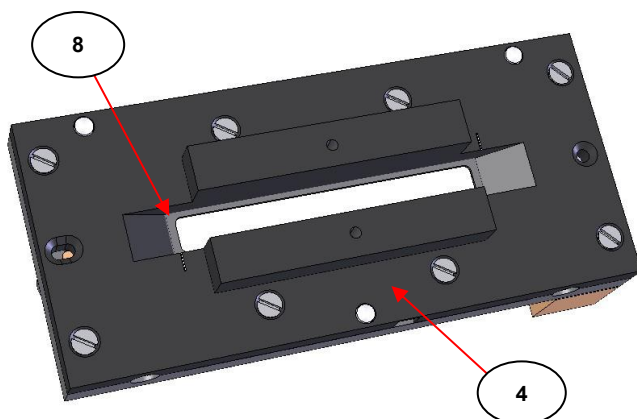

Fig 7. Kalrez Gasket Seal in the Gateway™ ATR Electrically Heated Trough Top Plate
When the ATR crystal (6) has been removed from the Top Plate assembly, access can be gained to the Kalrez gasket seal (8) for cleaning if necessary. (See **Fig 7.**)